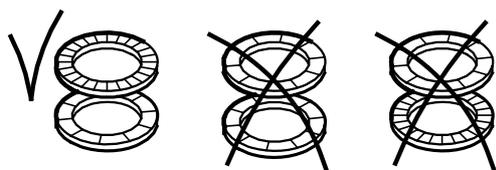

Fig. 21 Correct fitting of washers
- Fit short spacing pipe (pos. 64a), impeller (pos. 49), gasket (pos. 139c) and chamber (pos. 4g).
- Fit gasket (pos. 139b), spacing pipe (pos. 64), impeller (pos. 49) and chamber (pos. 4).
- Continue the assembly until clamp (pos. 64c). For correct fitting of chambers and impellers, see section 8. *Order of assembly for chambers and impellers.*
- Fit impeller (pos. 49), clamp (pos. 64c), washers (pos. 66) and nut (pos. 67). See fig. 21.